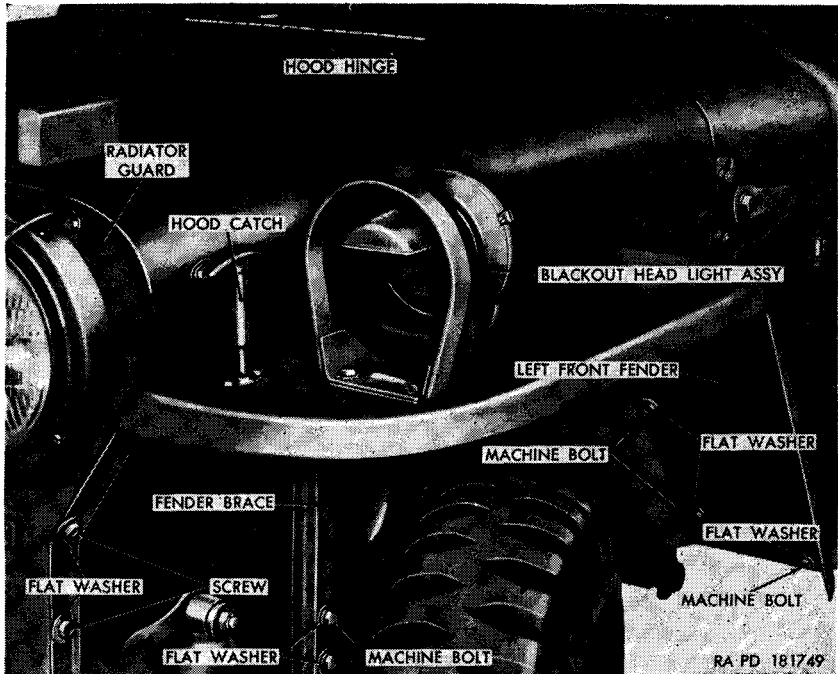
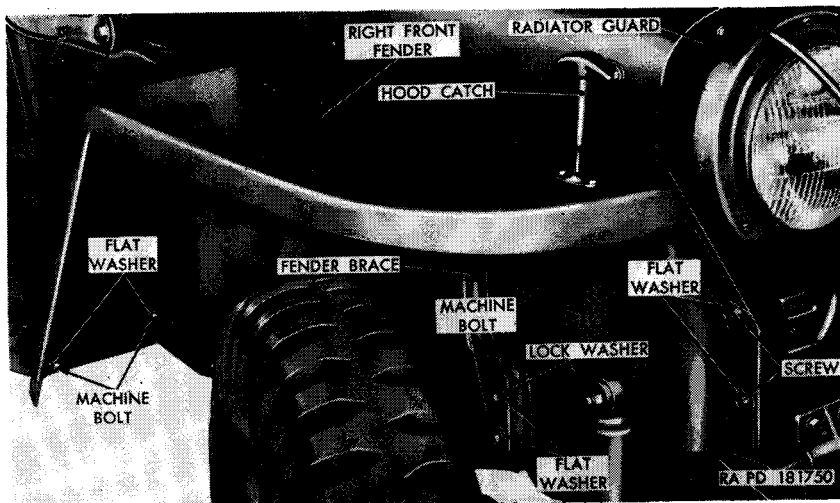
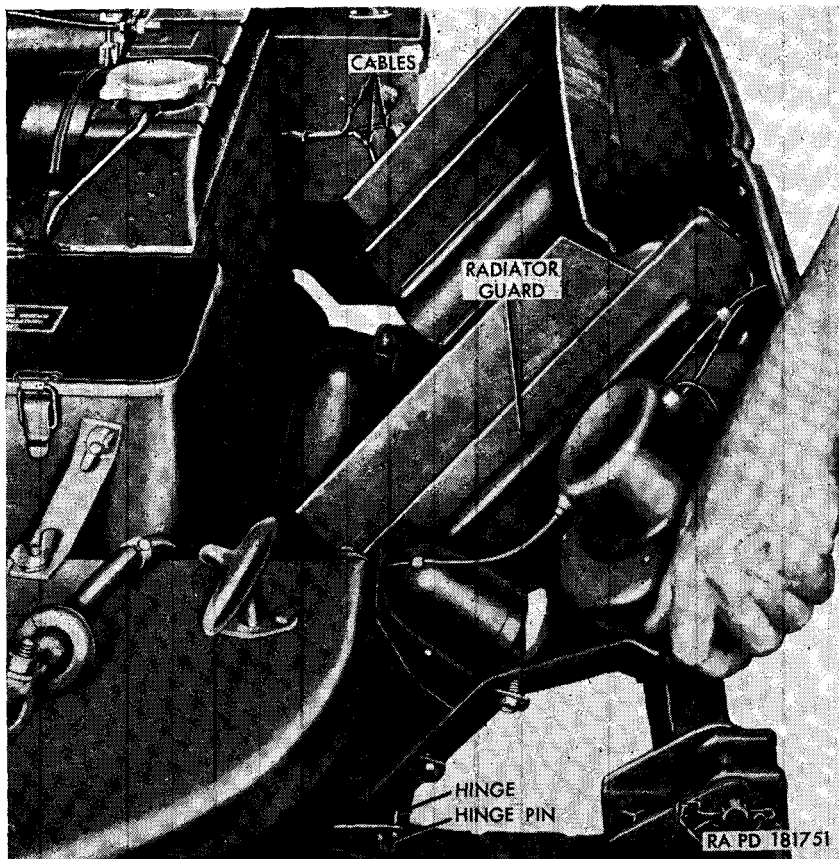

Figure 127. Hood and left front fender.
Figure 128. Right front fender.
Figure 129. Removing radiator guard.
(fig. 127)
- (1) *Left front fender* (fig. 127). Raise the hood and rest it against the windshield frame. Remove blackout headlight (par. 158). Remove horn (par. 185). Unhook the cables from the five clips on the fender and splasher. Remove the bolts, lockwashers, and nuts from the clips holding the hand brake cable and fuel line to the fender splasher. Remove the four bolts, lockwashers, and flat washers securing the rear of the left front fender to the body. Remove the two bolts, lockwashers, and flat washers
- (2) *Right front fender.* Raise hood and rest it against windshield frame. Remove the bolt and plain nut securing the clip for the battery-to-battery cable (fig. 68) to the fender and pull clip and cable away from fender. Remove the wing nuts and lockwashers securing the battery box-to-fender straps (fig. 68) to the fender. Remove the three screws, and flat washers securing the fender to the radiator guard (fig. 128). Remove the two bolts, lockwashers, and flat washers securing the fender brace (fig. 128) to the frame. Remove the three bolts, lockwashers, and flat washers (fig. 128) securing the rear of the fender to the body and pull fender to the right and remove.
- (1) *Left front fender* (fig. 127). Position the fender on the body, aligning the mounting holes with the mounting holes in the body, frame, and radiator guard. Secure the fender brace to the frame with two $\frac{3}{8}$ -inch lockwashers, $\frac{7}{16}$ -inch flat washers, and $\frac{3}{8} \times \frac{3}{4}$ bolts. Secure the rear of the fender to the body with four $\frac{5}{16}$ -inch lockwashers, $\frac{7}{16}$ -inch flat washers, and $\frac{5}{16} \times \frac{5}{8}$ bolts. Secure the front of the fender to the radiator guard with three $\frac{5}{16}$ -inch flat washers and $\frac{5}{16} \times \frac{7}{8}$ screws. Install horn (par.
- (2) *Right front fender.* Position the fender on the body, aligning the mounting holes with the mounting holes in the body, frame, and radiator guard. Secure the fender brace to the frame with two $\frac{3}{8}$ -inch lockwashers, $\frac{7}{16}$ -inch flat washers, and $\frac{3}{8}$ x $\frac{3}{4}$ bolts (fig. 128). Secure the rear of the fender to the body with three $\frac{5}{16}$ -inch lockwashers, $\frac{7}{16}$ -inch flat washers, and $\frac{5}{16}$ x $\frac{5}{8}$ bolts (fig. 128). Secure the front of the fender to the radiator guard with three $\frac{5}{16}$ -inch flat washers and $\frac{5}{16}$ x $\frac{7}{8}$ screws (fig. 128). Position the battery box-to-fender straps over the bolts in the fender. Install two $\frac{5}{16}$ -inch lockwashers and $\frac{5}{16}$ -inch wing nuts on the bolts. Position the battery-to-battery cable and clip against the fender and secure in position with a No. 10 x $\frac{5}{8}$ bolt and No. 10 plain nut.
a. Removal. Open the hood and disconnect the headlight and blackout marker light cables (fig. 129) at the left side of the vehicle. Loosen the six screws and flat washers securing the radiator guard to the right and left front fenders (figs. 128 and 127). Tilt the guard forward until slots in hinges are aligned with hinge pins and lift guard (fig. 129) off vehicle.
b. Installation. Place the radiator guard in position at the front of the vehicle. Aline the slot in hinges with hinge pins (fig. 129) and lower guard onto hinge pins. Raise the guard into position, entering the six screws into the slots in the fenders with the washers between the screw heads and the fenders. Tighten the six screws securing the guard to the fenders (figs. 127 and 128). Connect the headlight and blackout marker light cables (fig. 129) at the left side of the vehicle.